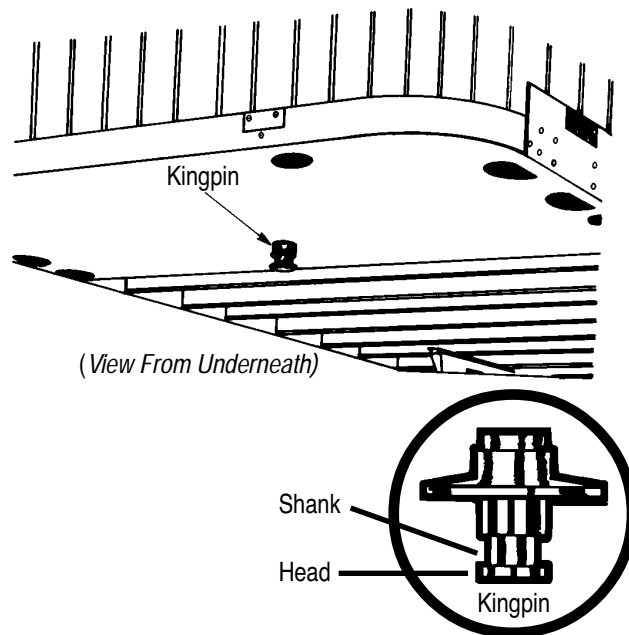

Figure 6-4 Trailer Kingpin
your turn without entering another lane of traffic, turn wide as you complete the turn (Figure 6-4). This is better than swinging wide to the left before starting the turn because it will keep other drivers from passing you on the right.
- Make sure the fifth-wheel jaws have closed around the shank of the kingpin. (Figure 6-4)